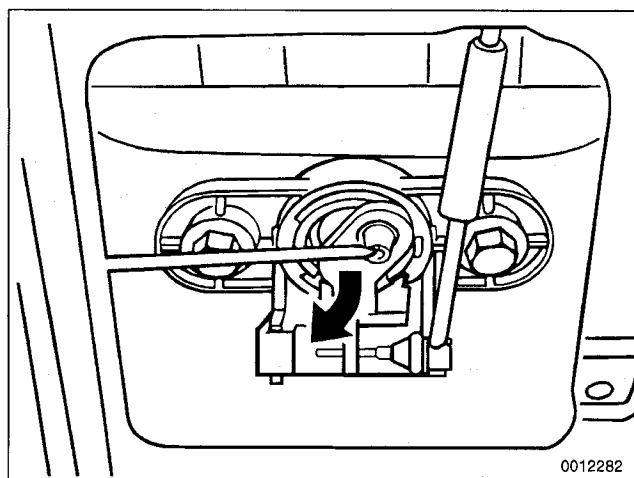

Fig. 17. Pull off luggage compartment lock actuating rod in the direction of **arrow**.
2. Disconnect actuating rod from lock. See Fig. 17.